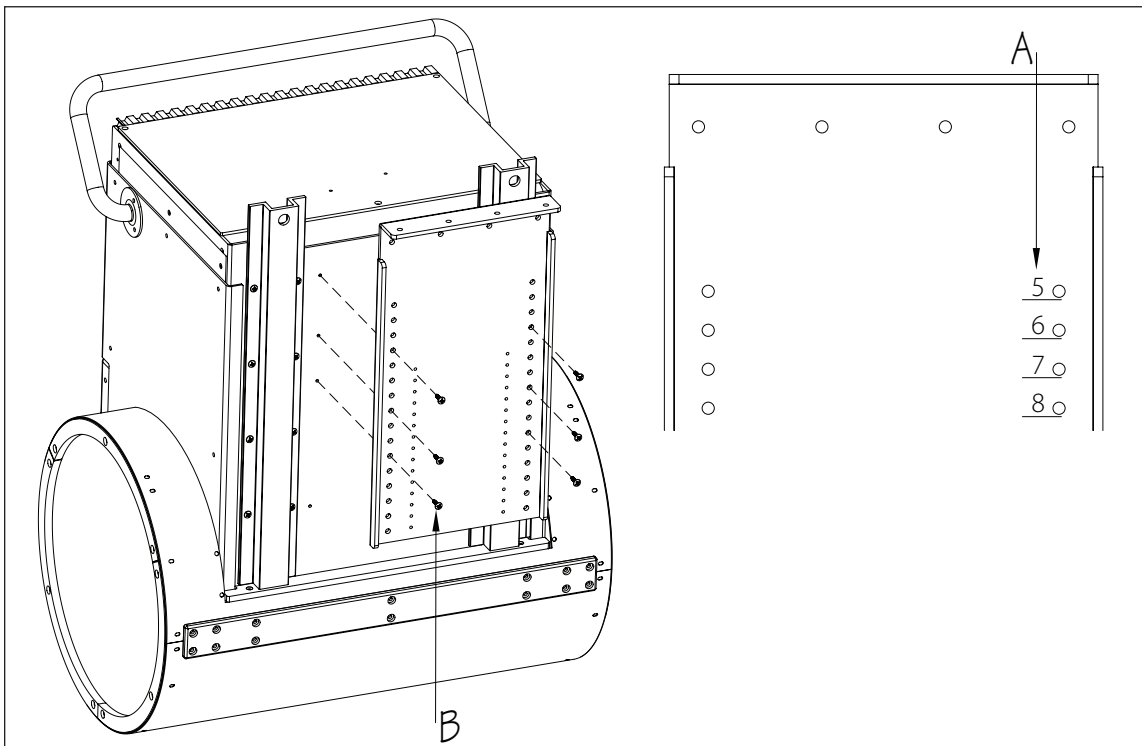

Fig. 17
4. The numbers etched into the back of the Hanger Bracket (A) represent the freeboard height in inches. Carefully lay the Current Unit on its front face. There are six pre-drilled holes between the Hat Sections. Align the hole set in the Hanger Bracket, that represents your freeboard height, with the top set of holes in the back of the Current Unit. Use the Phillips Truss Head Screws (B) to secure the bracket (Fig. 17).